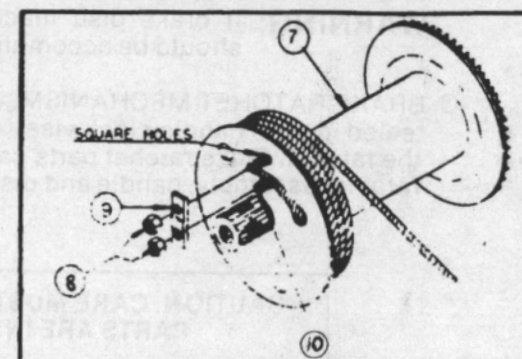

Fig. 3: Cable Installation
1. Feed cable onto top of drum (Item 7, Fig. 3). From inside drum, thread the cable through one round hole in the drum side, until it extends 1-1/2" past the two square holes.
2. Clamp the cable to the outside of the drum with keeper parts (Items 8, 9, 10, Fig. 3). Be sure that carriage bolt heads are on the inside of winch drum.